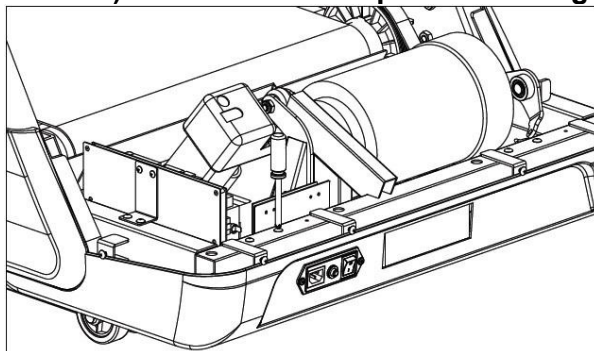

Figure 6.4.1
6) Remove the A/C power switch ground wire using a screwdriver as shown in Figure 6.4.1.